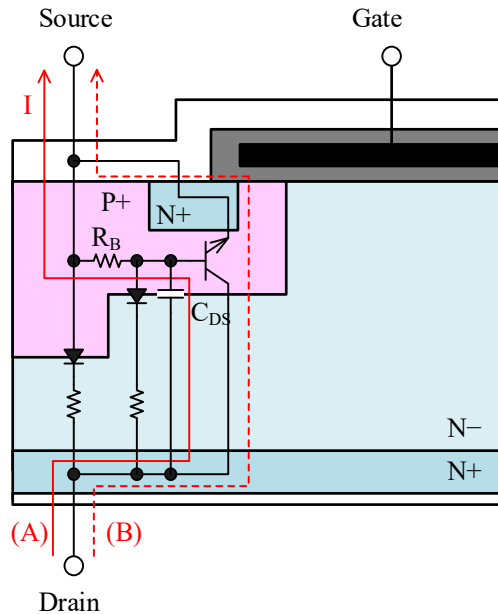

Figure 2-13. Section View of a Planar Power MOSFET (N-channel)
As shown in Figure 2-13, a power MOSFET generates parasitic capacitance,  $C_{DS}$ , between drain and source.
As shown in (A) in Figure 2-13, the current,  $I$ , flows at the power MOSFET turn-off. The current,  $I$ , can be calculated by the following equation.
At this time, a voltage ( $R_B \times I$ ) is generated across the base resistor,  $R_B$ , of the parasitic NPN bipolar transistor. When this voltage exceeds the base-to-emitter voltage that turns on the parasitic NPN bipolar transistor, a current flows as shown in (B) in Figure 2-13. As a result, the destruction capability is decreased.